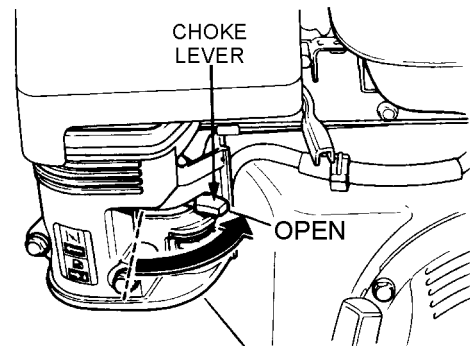

Figure 10. Engine Choke Lever (Open)
4. Place the choke lever (Figure 10) in the "OPEN" position if starting a warm engine or the temperature is warm.